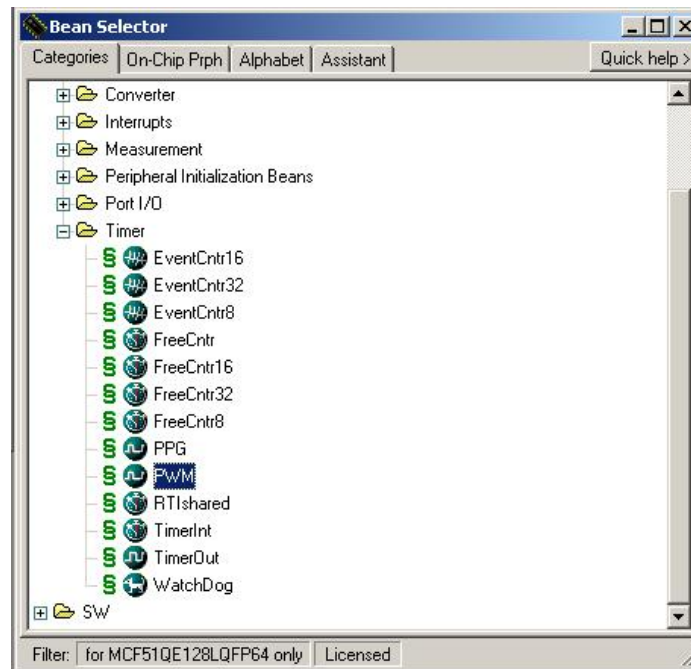

Figure 35. Bean Selector Window - PWM Bean
2. Go to menu Processor Expert > View > Bean Selector in Code Warrior and add the PWM bean (Figure 35).